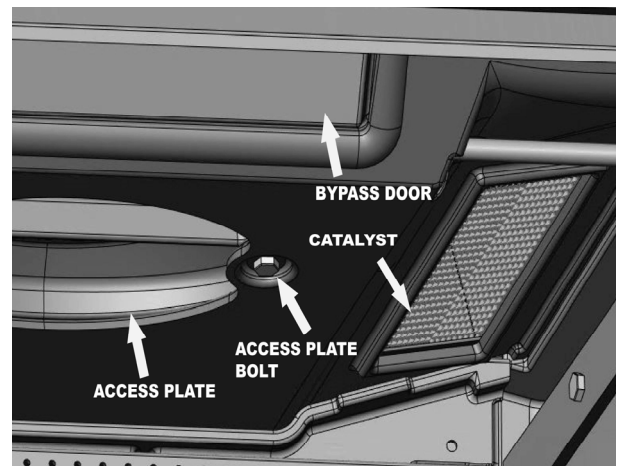

Figure 8– Access Plate and Catalyst Detail Half (left side shown)
3. Remove the access plate (see figure 8) using a 7/16" socket wrench.